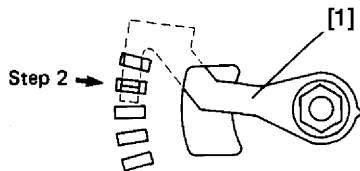

Fig. 3-2 Position of Adjustment Lever
- (4) Next, hold the position of the shaft in the $\phi 2.5$ hole [7], rotate the right adjustment bush [9], and adjust the gap at the right.
- (5) After adjusting, set the adjustment lever [1] to the position shown in Fig. 3-2 and tighten the nut [6].
- (1) Remove the upper case unit according to the procedures described in chapter 4.
- (2) Move the carriage unit [2] right and left two or three times in order to familiarize yourself with the timing belt [3].
- (3) Set the adjustment lever [4] at step 2 as shown in Fig. 3-2.
- (4) Move the carriage unit [2] to the right end.
- (5) Set the arm [5] of the tension gauge [1] 206 mm a part from the frame L.
- (6) Move the tension gauge [1] in the opposite direction of the platen [6] until it stops. Then place the arm [5] of the tension gauge on the timing belt [3].
- (7) Loosen the screw [7].
- (8) Insert a flat-blade screwdriver into the square hole of frame and adjust the belt tension by moving the tension arm [8] left or right.
- (9) When the belt has been adjusted to the prescribed tension, tighten the setting screw [7].
- (10) If the belt cannot be adjusted to the prescribed tension, replace it with a new timing belt [3].